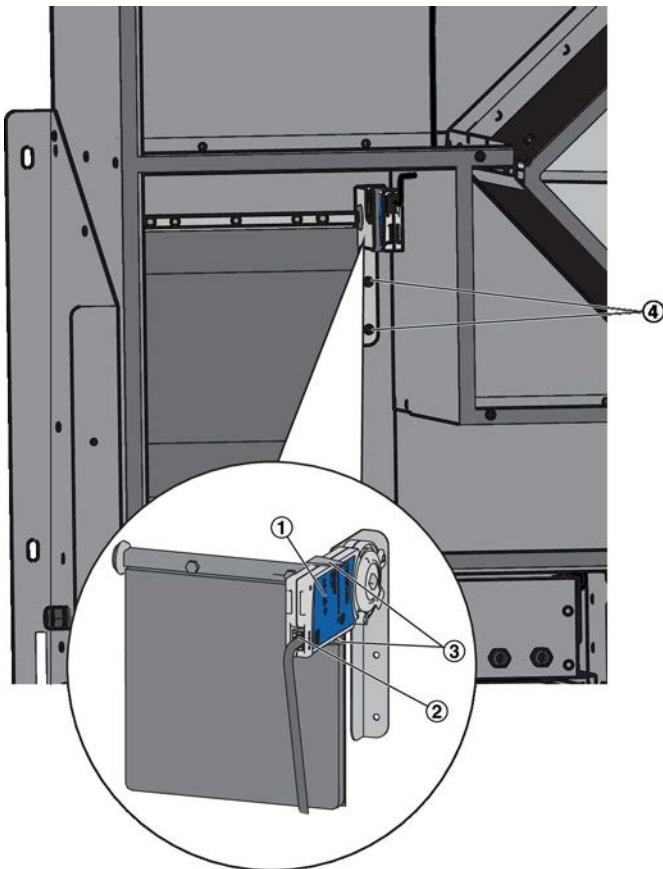

Fig. 30: Replacing an actuator
- ▶ Remove the plug of the connecting cable (Fig. 30/2) from the actuator (Fig. 30/1).
- ▶ Loosen the two Phillips screws (Fig. 30/4) and remove the entire subassembly.
- ▶ Release the actuator from the retaining bracket (Fig. 30/3) and fit a new actuator.